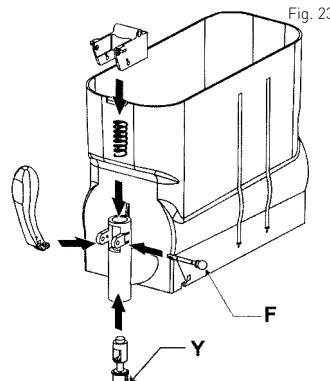

Fig. 23
- Fit the pin [F] while keep the tap lever steady (See Fig. 23).